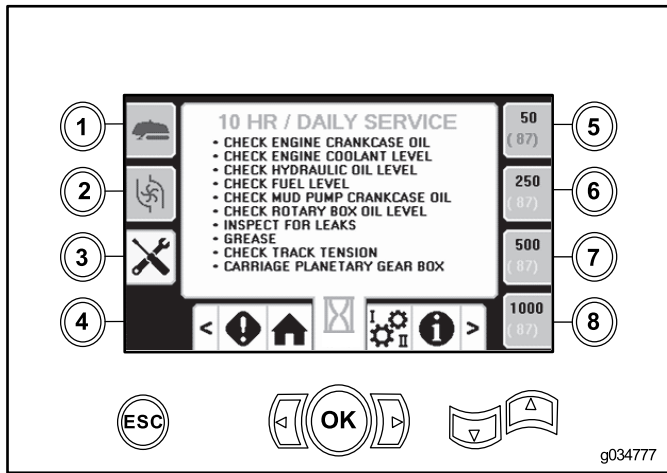

Figure 50
- Button 3—10-hour/Daily (Figure 50)